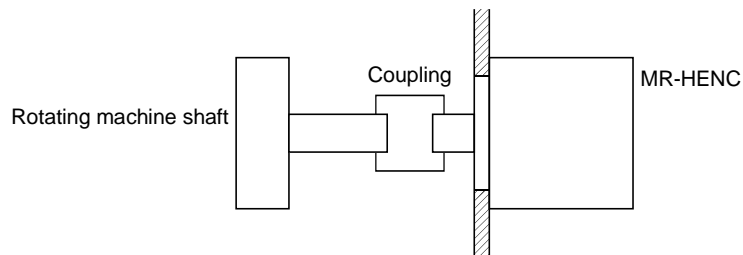

Fig. 3.2 Connecting the Encoder to a Machine Shaft
- (2) Large errors in eccentricity and angle of deviation during mounting can apply an excessive force to the MR-HENC shaft, which can cause deterioration in performance drastically reduce encoder life. Minimize loads applied to the shaft such that they lie within the permitted shaft load range. The permitted shaft loads are shown in Fig. 3.2 for the recommended coupling type.